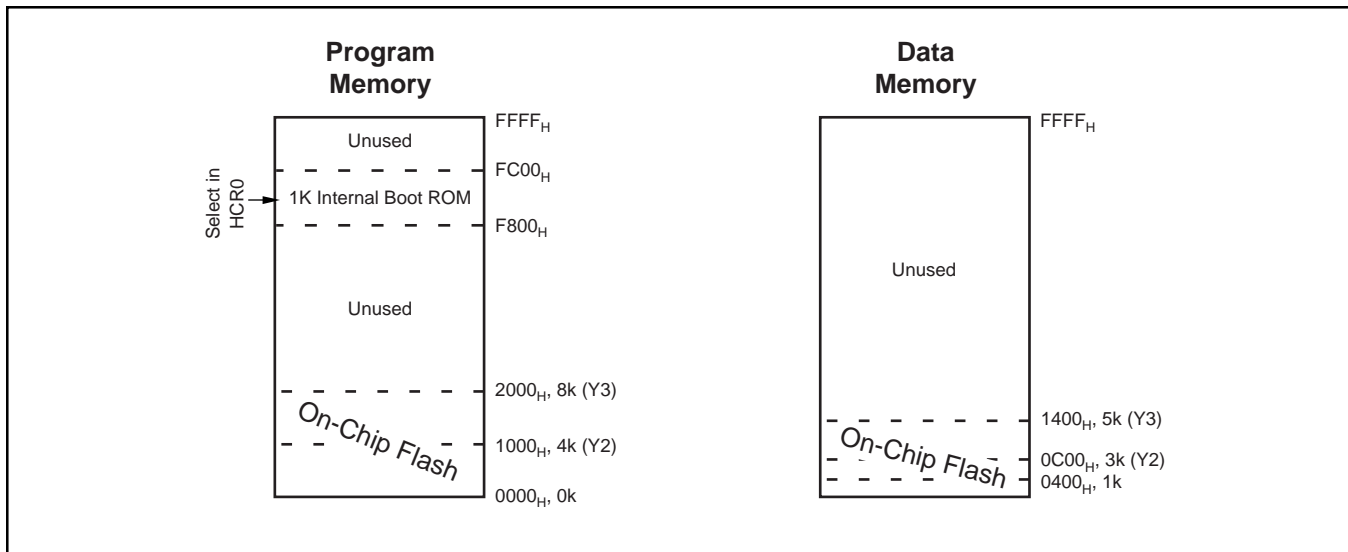

FIGURE 18. Memory Map.
The MSC1201 allows the user to partition the Flash Memory between Program Memory and Data Memory. For instance, the MSC1201Y3 contains 8kB of Flash Memory on-chip. Through the HW configuration registers, the user can define the partition between Program Memory (PM) and Data Memory (DM), as shown in Tables III and IV and Figure 18. The MSC1201 family offers two memory configurations.